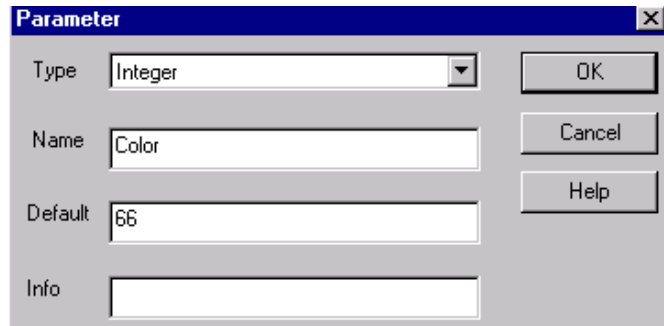

Figure 147. Parameter Definition Dialog
- Configure the new parameter as shown in Figure 147. Select **Integer** as the parameter type, specify the parameter name as **Color**, and enter a default value of **66** (a shade of yellow).